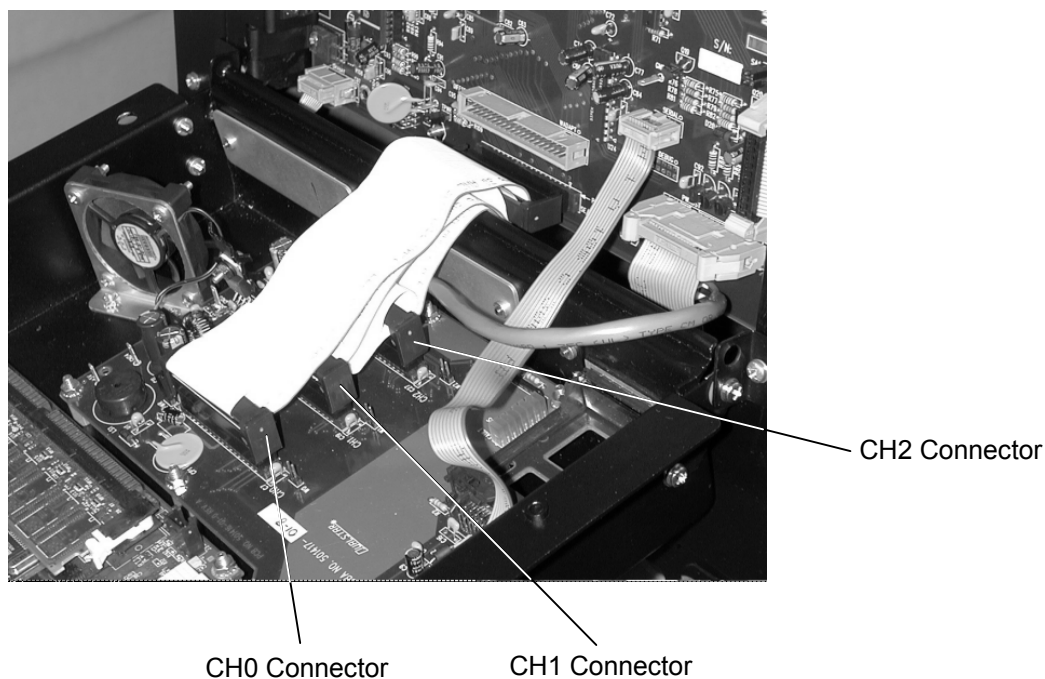

Figure 9-3 Channel Connections in Type A FCO
5. Carefully disconnect the SCSI Bus ribbon cable (labeled CH0) from the CH0 connector on the Fibre Channel Option. See Figure 9-3.
6. Carefully disconnect the SCSI Bus ribbon cable (labeled CH1) from the CH1 connector on the FCO and then disconnect the last ribbon cable from the CH2 connector (if present). See Figure 9-3.